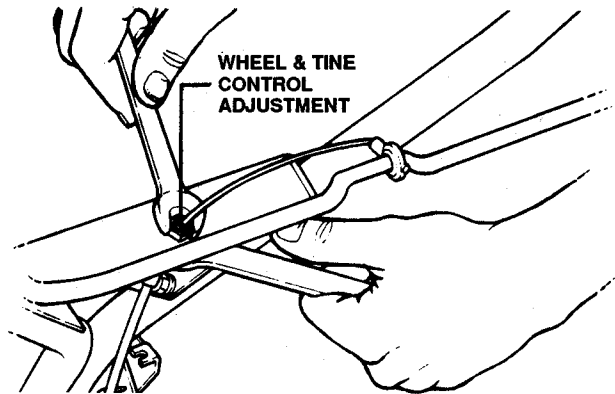

FIGURE 11
**BELT TENSION ADJUSTMENT:** To check, remove L.H. wheel and drive belt guard. Measure the length of the IDLER PULLEY SPRING at the end of the control cable. Move the WHEEL & TINE CONTROL up to the handle bar and measure the extended length of the spring. When properly adjusted, the spring should extend 1/4" to 1/2" when WHEEL & TINE CONTROL is engaged. If adjustment is required, loosen and reposition the jam-nuts on the threaded ends of the cable conduits. To increase spring extension, turn the jam-nuts closer to the cable fittings. See Figure 11.